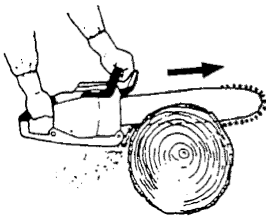

Fig. 19
- Never use the saw with only one hand. You cannot control the saw properly and you may lose control and injure yourself severely. Keep the saw body close to your body to improve control and reduce strain. When cutting with the bottom part of the chain the reactive force will pull the saw away from you towards the wood you are cutting. The saw will control the feeding speed and sawdust will be directed towards you. (Fig. 19)